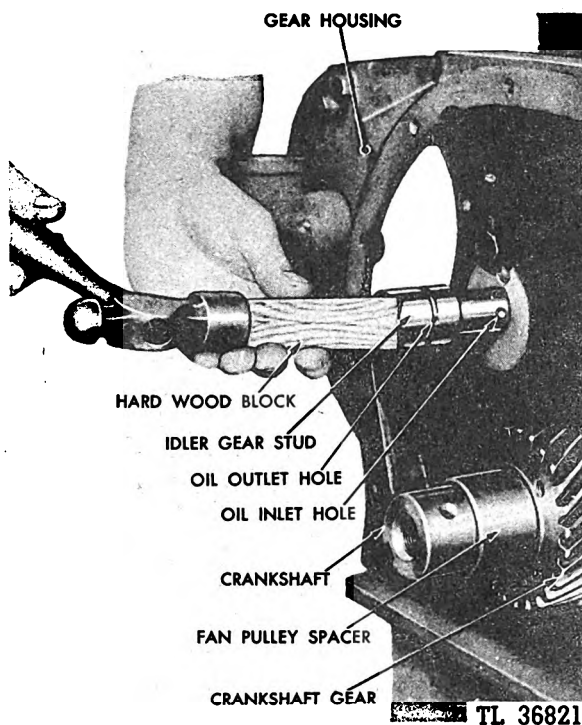

Fig. 169. Installing Idler Gear Stub Shaft
i. *Installing Idler Gear Shaft.* Drive in the idler gear shaft as shown in Figure 169. Be sure to line up the setscrew hole in the shaft with the setscrew hole in the crankcase. **DO NOT MISTAKE THE OIL PASSAGE HOLE FOR THE SETSCREW HOLE.**